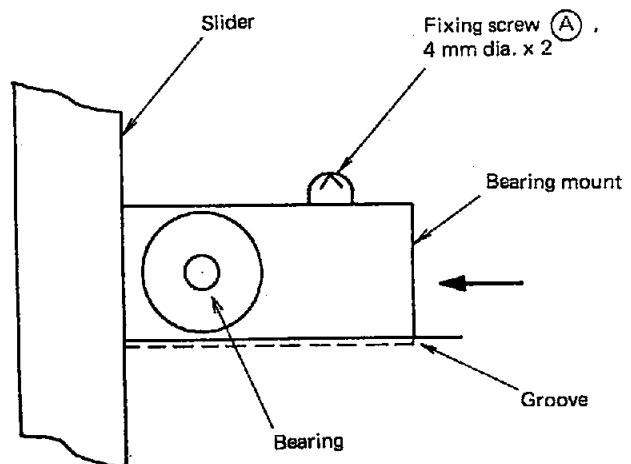

Fig. 8-6-1
- (1) Loosen fixing screw Ⓐ . (Fig. 8-6-1)
- (2) Make sure that the bearing mount is inserted in the groove, and tighten the fixing screw while pressing the bearing mount as guided by arrow in Fig. 8-6-1.